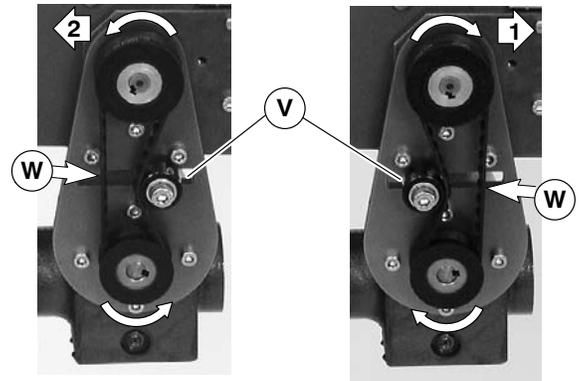

Figure 12
3. Depending on direction of conveyor belt travel (1 or 2 of Figure 12), position belt tensioner (V) as shown. Tension belt to obtain .125" (3 mm) deflection for 1.0 lb (456 grams) of force at belt mid-point (W). Tighten tensioner screw to 103 in-lb (12 Nm).